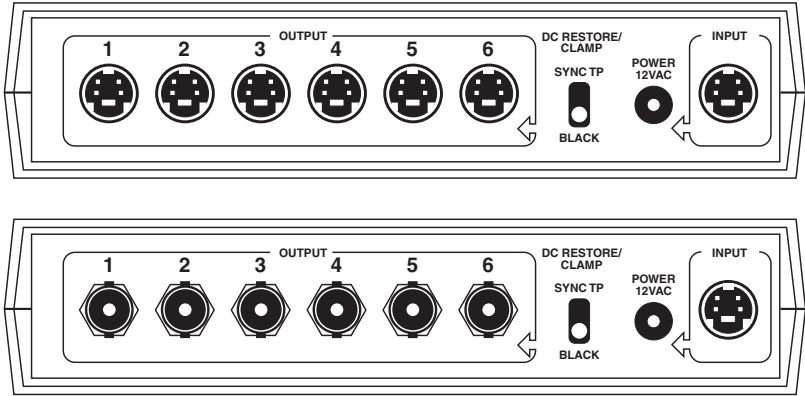
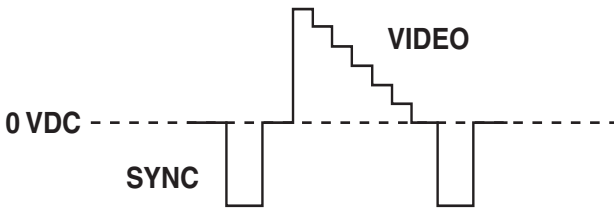
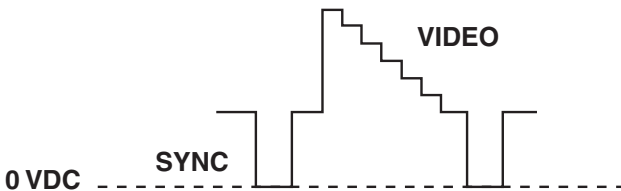

Figure 3-1. Rear panel of the AC043 (top) and AC044 (bottom) models of the Video Splitter-8.
Figure 4-2. Video output clamped at 0 VDC.
Figure 4-3. Video output raised above ground.
Most external connections to the Video Splitter-8 are made to its rear panel, which is shown in Figure 3-1.
The DC restore/clamp switch is on the rear panel of your Video Splitter-8, as shown in Figure 3-1 on page 7. Set it to the position which yields the best picture. For most applications, you'll get a better picture if you set the switch to the "BLACK" (DOWN) position. In this position, the output video is clamped at 0 VDC (see Figure 4-2). Some monitors, however, will display a better picture if you set this switch to the "SYNC TIP" (UP) position, which causes the Splitter-8 to raise the sync signal above ground/0 VDC (see Figure 4-3).